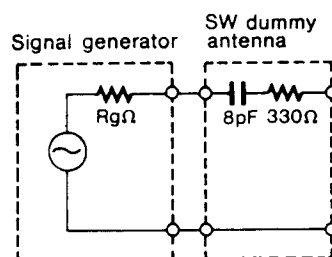

Fig. 14
7. SW. dummy antenna is shown in Fig. 14.